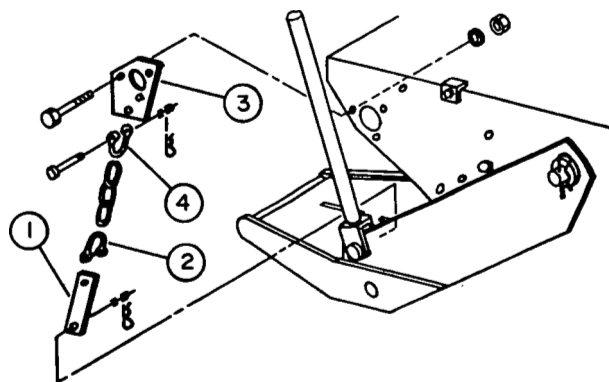

FIGURE 2
- c) Attach support plate (fig.2, item 1) on pin of lower left hand lift link. Secure with hairpin.
- d) Assemble shackle (fig.2, item 2) with cotter pin to chain and support plate (fig.2, item 1).
- e) Attach chain anchor plate (fig.2, item 3) to tractor frame (placing largest hole in line with tractor front mounting hole) using three $5/16" \times 1"$ bolts, lockwashers and nuts.
- f) Assemble shackle (fig.2, item 4) with hairpin to chain and anchor plate.